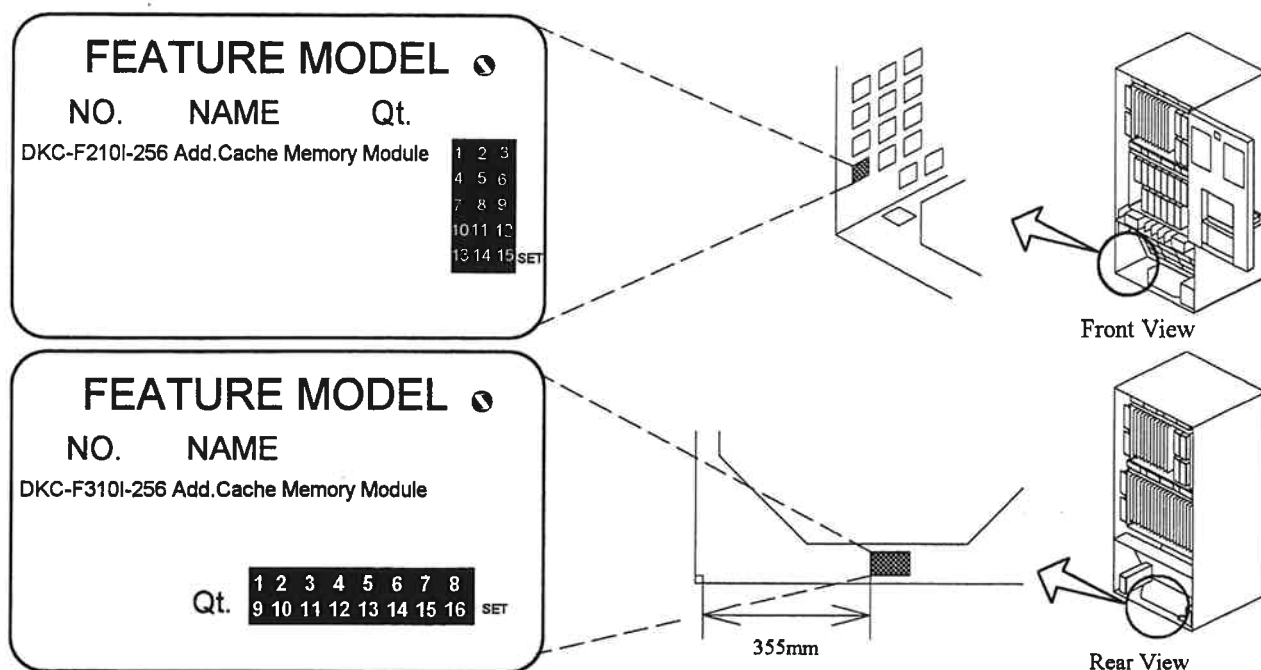

Fig. 3.4.1.4.2-4 Location of the Nameplate
- a. Refer to Fig. 3.4.1.4.2-4 and Table 3.4.1.4.2-5 to paint out unnecessary numbers and wipe off a necessary number painted previously so that the "Qt." marking for the corresponding DKC-F210I-256/DKC-F310I-256 can be seen.